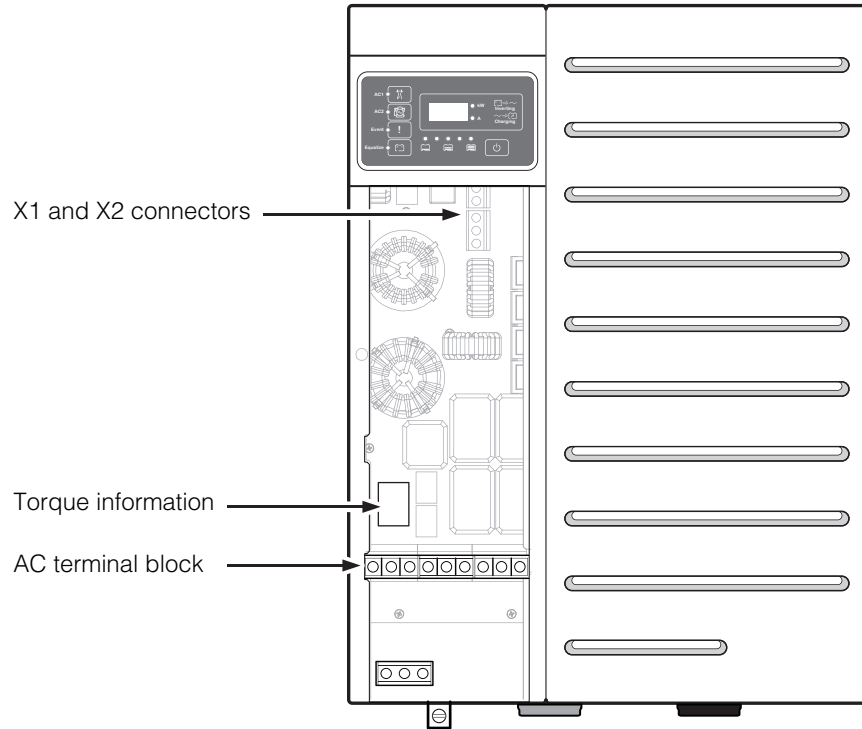

Figure C-3 Connector Locations.
1. Locate the X1 and X2 connectors (see Figure C-3).
5. Tighten all terminals to 35 in-lb (4.0 N-m) per the torque information printed on the AC board. See Figure C-3 for the torque information location.
1. Locate the Load, AC1 (Grid), and AC2 (Gen) connectors (see Figure C-3 on page C-7).
4. Tighten all terminals per the torque information printed on the AC board. See Figure C-3 on page C-7 for the torque information location.